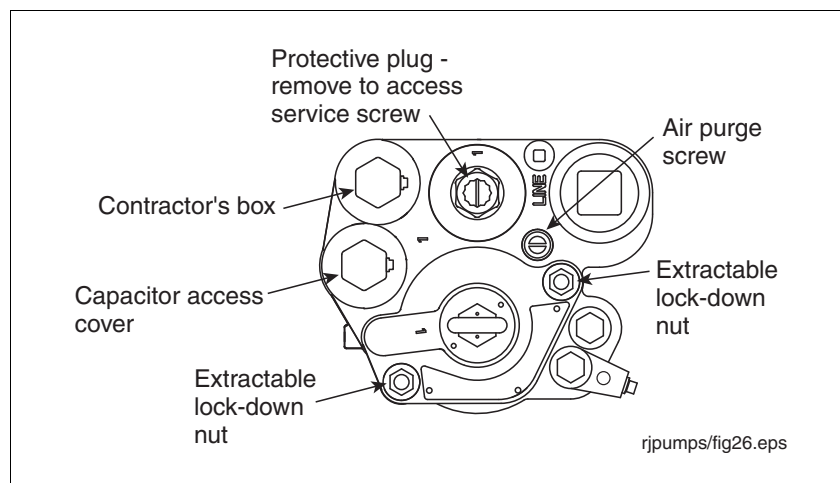

Figure 22. Extractable lock-down nuts
2. Remove the two extractable lock-down nuts (see Figure 22). The springs on the lock-down studs between the extractable's flange and the manifold will push the extractable up, breaking the seals.
12. Turn the air purge screw 2 - 3 turns counterclockwise (see Figure 22).